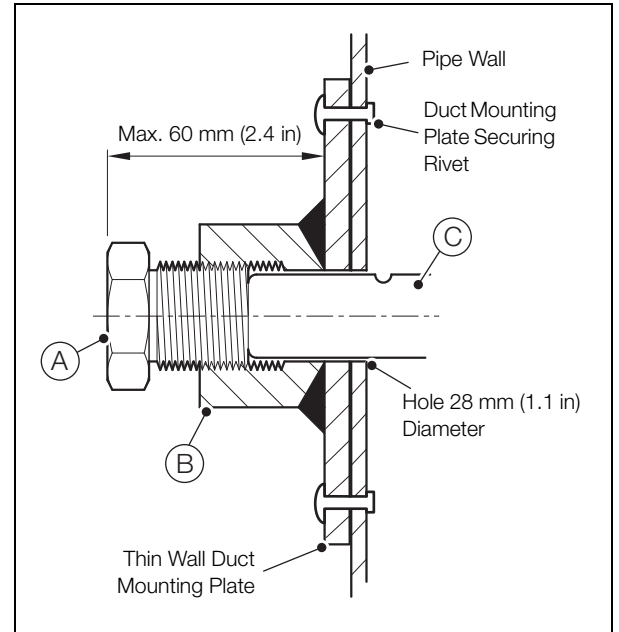

Fig. 2.9 Model 402 Thin Wall Duct Mounting Plate Support Plug
11. Referring to Fig. 2.9, screw support plug (A) into threaded fitting (B) and tighten, ensuring that:
- a. support plug (A) contacts the Torbar (C)
- b. the distance between the head of support plug (A) and the pipe wall does not exceed 60 mm (2.4 in).